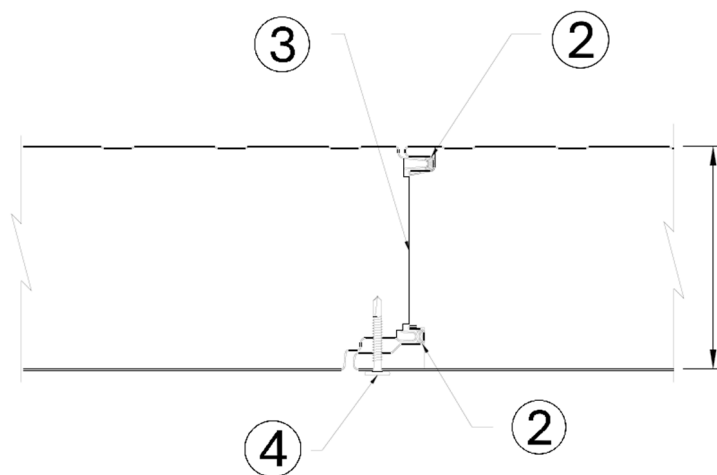

Figure 1. K-ROC FX Wall Assembly
- 3. INTUMESCENT:** Refer to Figure 1. Apply a layer of 1mm thick Promat Promaseal®-LW Intumescent Tape in the interlocking joints of